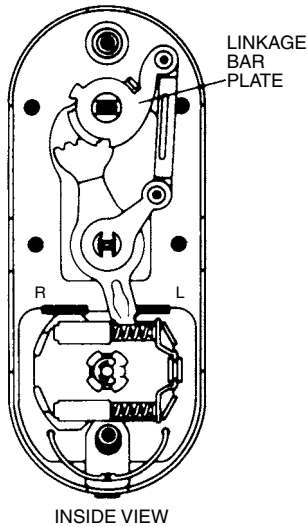

Figure 13.85 Changing hand, Step 16.
16. Install the linkage-bar plate (Fig. 13.85).